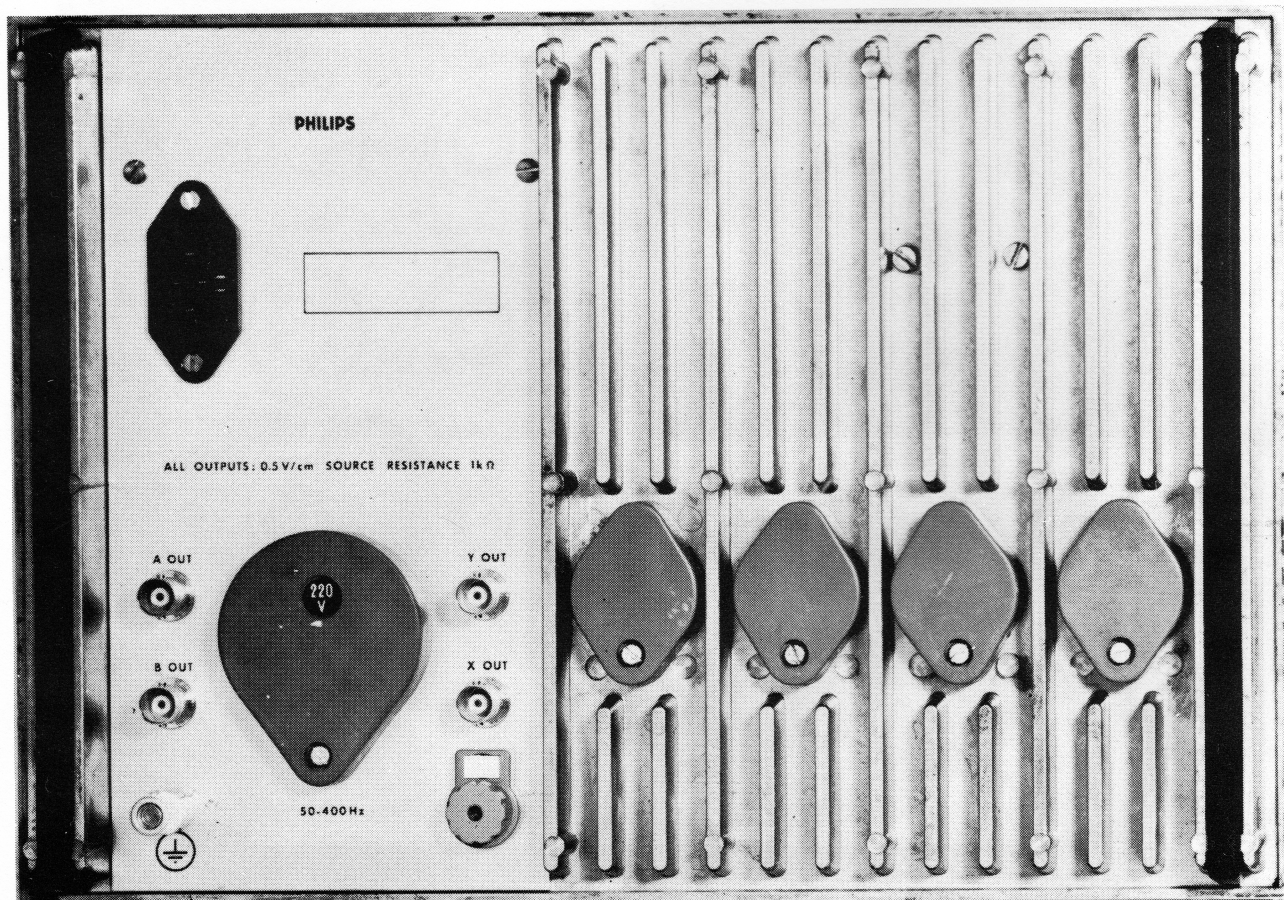

Fig. V-2. Rear view
The set voltage can be read through the aperture in the plastic lid on the rear panel (Fig. V-2).
- b. Via the earthing socket P13 on the rear panel (Fig. V-2)